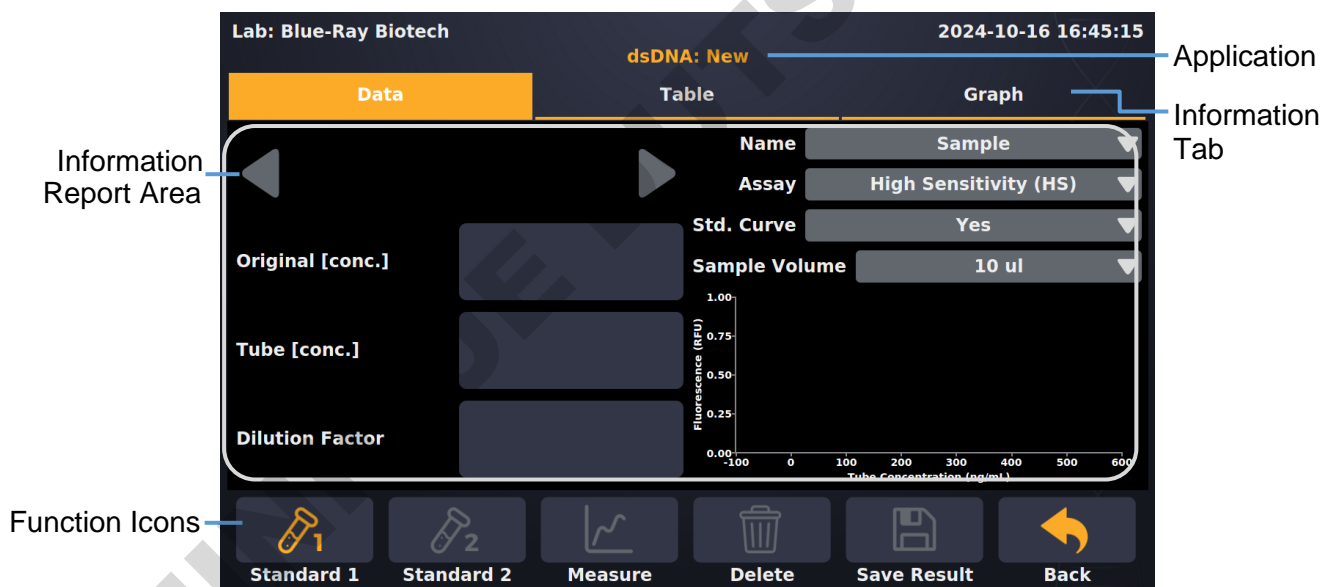

Figure 12. Application Screen
- Information Tab (see Figure 12 and Table 6)